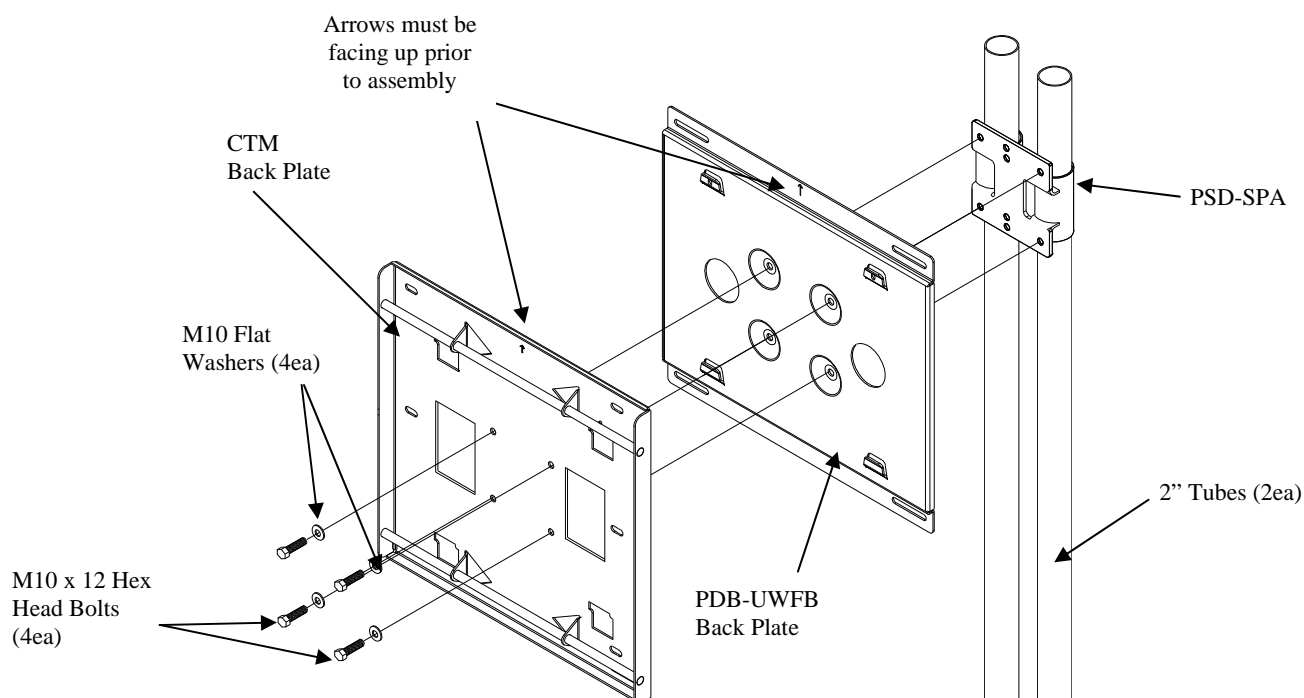

Figure 2
1. For the PDB-UWFB (PSM-Series) secure the back plate to the four (4) threaded mounting points found on the PSD-SPA with the four (4) M10 x 12 bolts and flat washers (supplied).
2. For the CTM-Back plate (CTM-Series) secure the back plate to the four (4) threaded mounting points found on the PSD-SPA with the four (4) M10 x 12 bolts and flat washers (supplied) – (Figure 2)